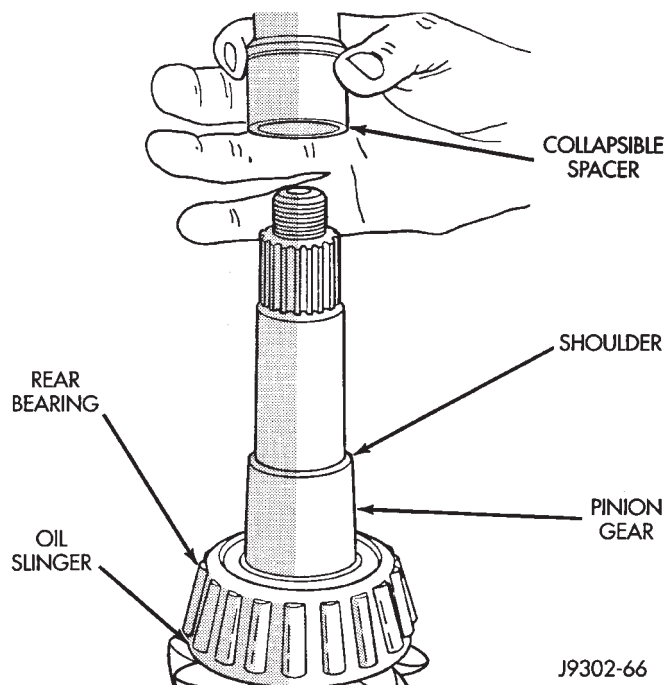
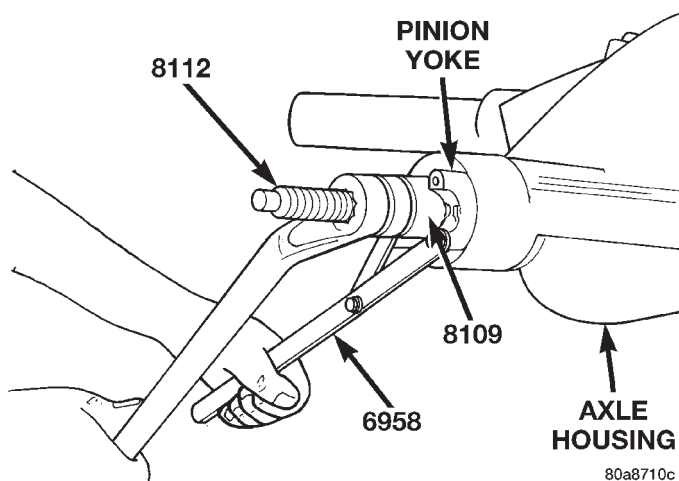

Fig. 44 Collapsible Preload Spacer
Fig. 45 Pinion Yoke Installation
(9) Install a new collapsible preload spacer on pinion shaft and install pinion gear in housing (Fig. 44).
(10) Install pinion gear in housing.
(11) Install yoke with Installer Screw 8112, Cup 8109, and holder 6958 (Fig. 45).